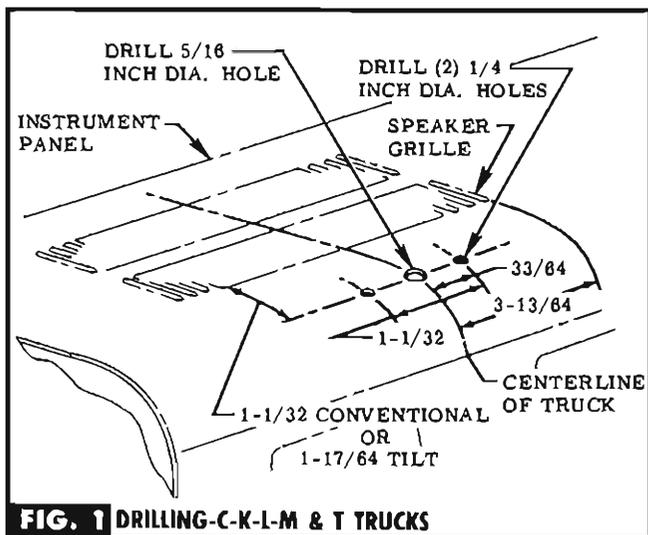

FIG. 1 DRILLING-C-K-L-M & T TRUCKS
STEP 2 LOCATE, CENTERPUNCH & DRILL HOLES IN INSTRUMENT PANEL. SEE FIG. 1, 2 OR 3. **NOTE** On Corvaire only-